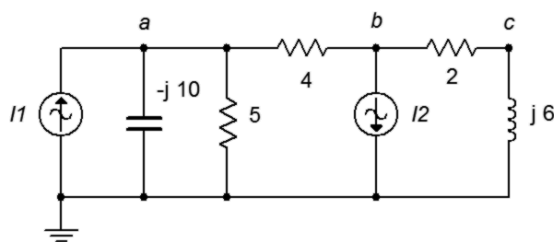

Figure 6.18
35. Use nodal analysis to find the current through the $4\ \Omega$ resistor in the circuit of Figure 6.18. $I_1 = 1\angle 45^\circ$, $I_2 = 2\angle 45^\circ$.
36. Given the circuit in Figure 6.18, use nodal analysis to determine v_c . $I_1 = 6\angle 30^\circ$, $I_2 = 4\angle 0^\circ$.